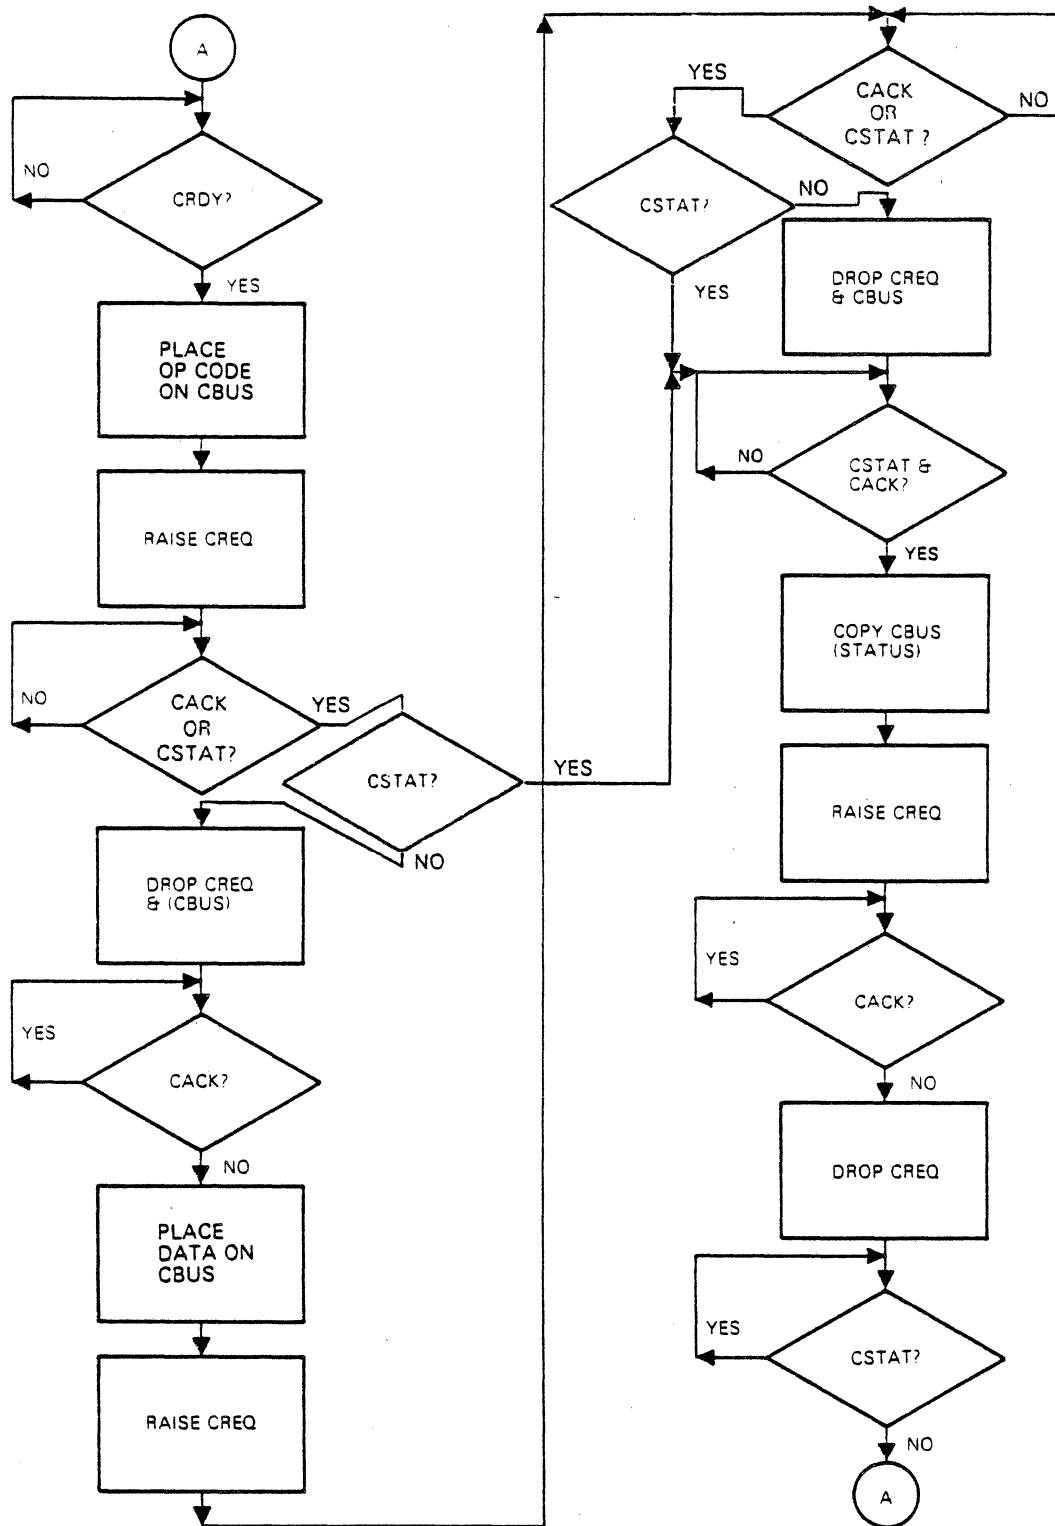

Figure 3-6. Two Byte Commands — Flow Chart (Suggested Procedure for User)
3.4 TWO BYTE COMMANDS (Figures 3-6 and 3-7)